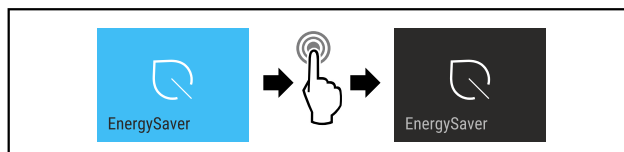

Fig. 17
- ▶ Complete the steps (see Fig. 17).